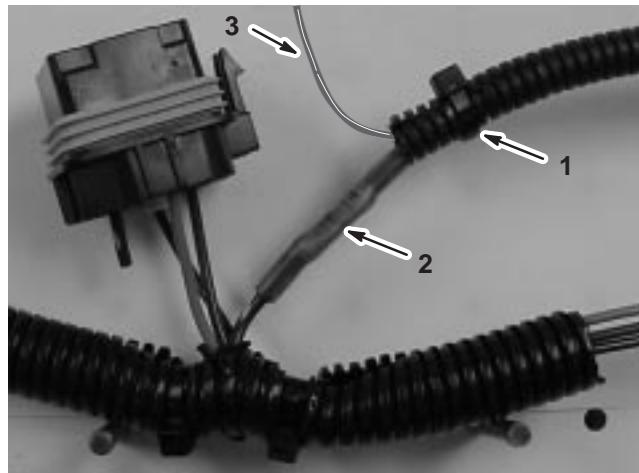

Figure 18
9. Splice the brown wire with the white stripe to the splice connector on the module wiring harness, using a heat shrink tube to seal them together (Fig. 18).